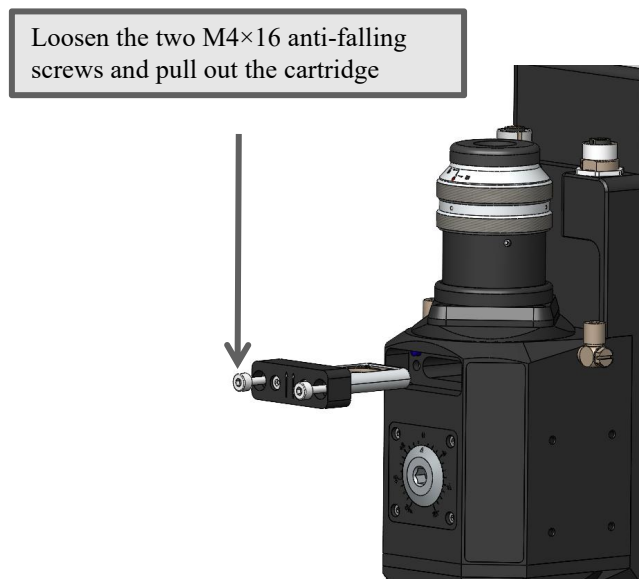

Figure 2.6
5.1.1 Disassembly of collimation protective lens, as shown in Figures 2.6 and 2.7 below.